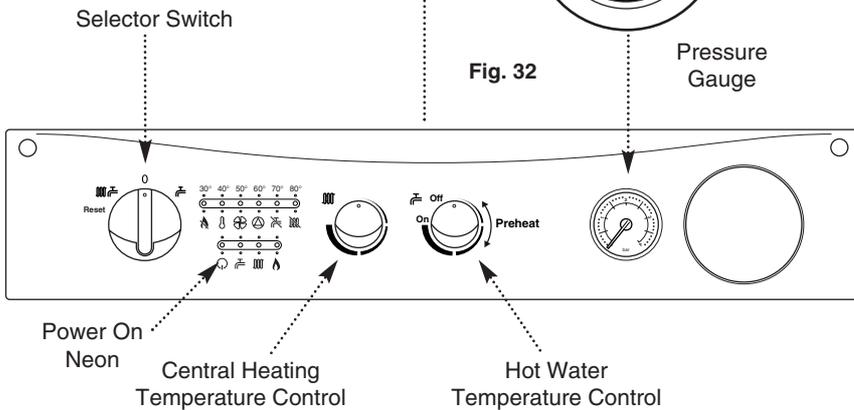

Fig. 33
10. If at any time during commissioning it is required to terminate a particular cycle, e.g. the pump overrun period, turn the selector to the OFF position and then back to either ( 产 ) or ( 产 ) (Fig. 33).